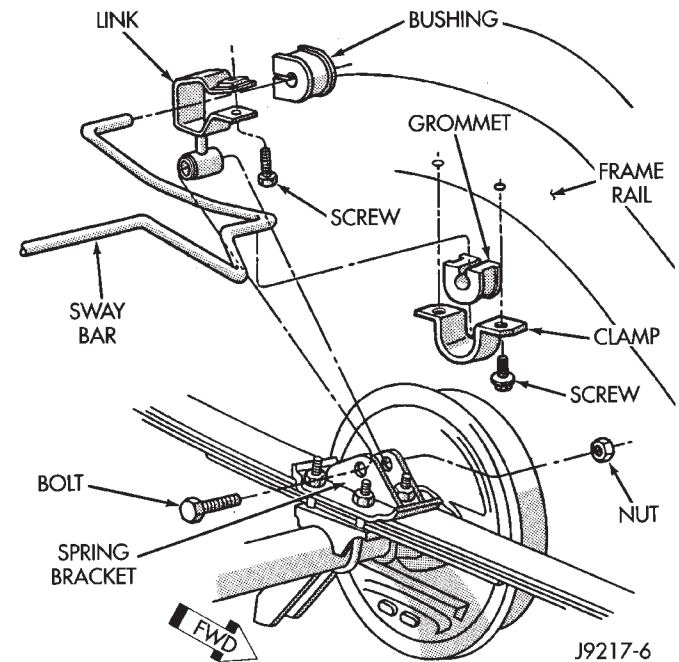

Fig. 3 Stabilizer Bar—XJ Vehicles
- (1) Raise and support the vehicle.
- (2) Disconnect stabilizer bar links from spring brackets (Fig. 3).
- (3) Disconnect the stabilizer bar brackets from the frame rails. Remove the stabilizer bar and links.
(1) Position the stabilizer bar links at the spring brackets (Fig. 3). Install the attaching bolts and nuts and tighten to 74 N·m (55 ft. lbs.) torque.
(2) Attach the stabilizer bar to the frame rail brackets with the bolts. Tighten to 54 N·m (40 ft. lbs.).
(3) Remove the supports and lower the vehicle.